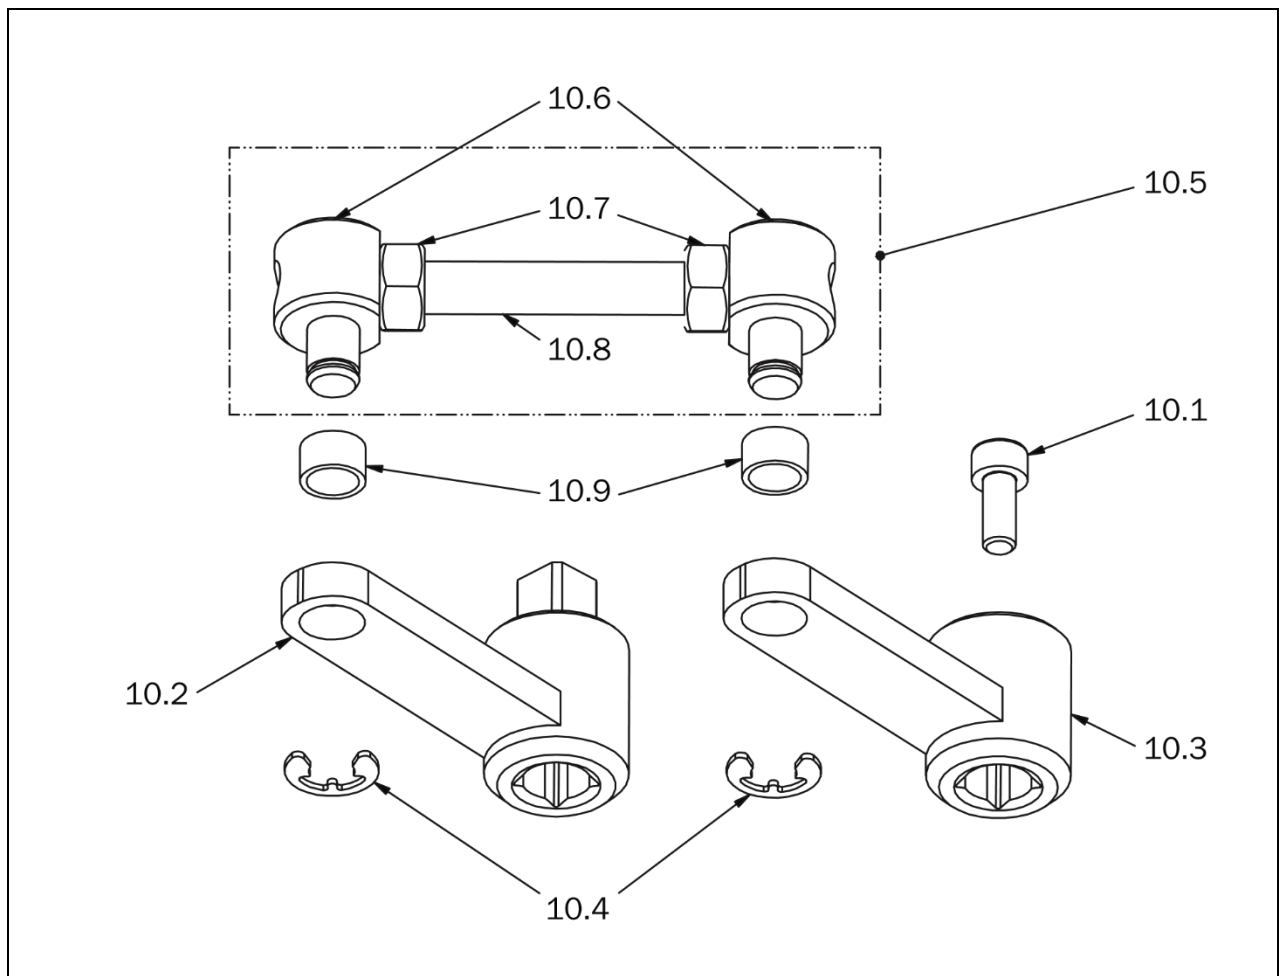

Fig. 6-6: Structure of the shift combination
- Fit the swivel lever (Fig. 6-6, item 10.3) and fasten in place using the socket-head screw (Fig. 6-6, item 10.1). Pay attention to the position of the swivel lever when doing this (see adjacent figure).
- Fit the adapter with swivel lever (Fig. 6-6, item 10.2).
- Fit the shift linkage (Fig. 6-6, item 10.5) without lock washers.
- Correct the position of the valve discs if required. To do this, unfasten one of the two locknuts (Fig. 6-6, item 10.7) and remove the shift linkage (Fig. 6-6, item 10.5).
Screw the corresponding connecting bolts (Fig. 6-6, item 10.6) further up or further down on the threaded rod. Insert the shift linkage back into the shift combination.
- Remove the shift linkage and adapter with swivel lever again (Fig. 6-6, items 10.5 and 10.2).
- Fit the shift linkage (Fig. 6-6, item 10.5) into the shift combination and secure it with the locking ring (Fig. 6-6, item 10.4).